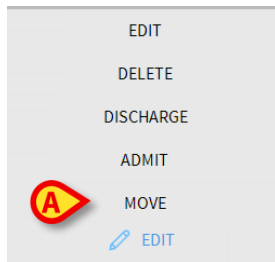

Fig 114
A menu containing different options opens (Fig 114).
The **Move** button (Fig 114 **A**) makes it possible to register the transfer of the patient selected to a different bed and/or a different location.
A drop-down menu containing various options opens (Fig 114).
- Click the **Move** button (Fig 114 **A**)